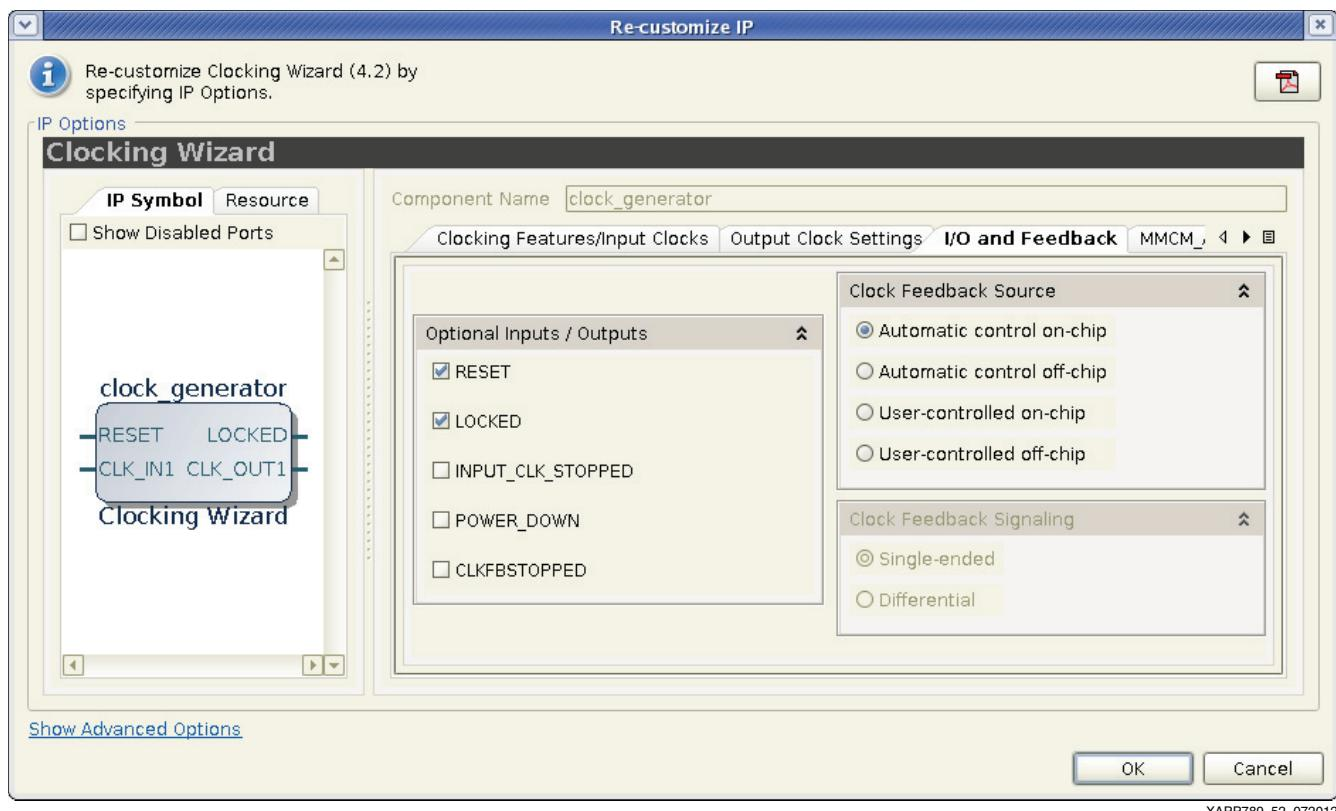

Figure 52: **Clocking Wizard I/O and Feedback Settings**
43. Click the **I/O and Feedback** tab and verify that the following settings are correct (Figure 52):